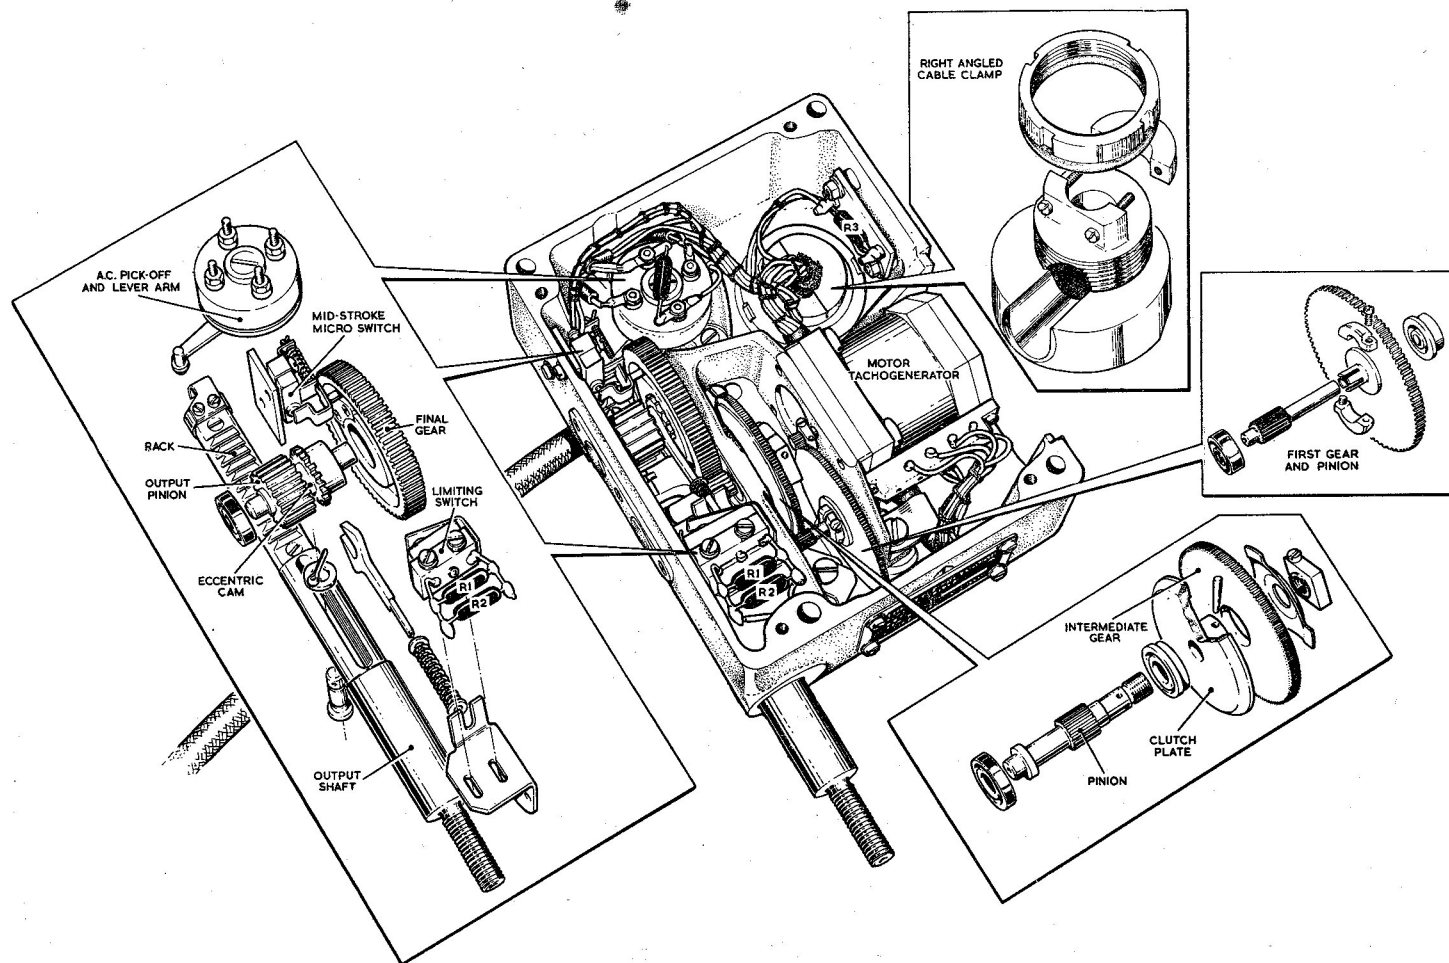

Fig. 2. Actuator—exploded view
4. The throttle actuator (fig. 2) consists of an a.c. motor-tachogenerator, a reduction gear train with a rack and pinion output stage and an a.c. pick-off. The rack is fixed to the output shaft which has a maximum movement of 1.00 ± 0.01 in. The a.c. pick-off is coupled to the output shaft by a lever.
6. The motor drive is transmitted through a 764 : 1 reduction gear train (fig. 2) to the actuator output shaft. A slipping clutch is included in the gear train to prevent motor inertia from damaging the gears in the event of an output overload. To save excessive wear on the overload clutch a protection circuit is included which stalls the motor when the actuator shaft reaches its full travel limit.
7. The components are housed in a cast light alloy case (fig. 2) which has an open top and a cut-out on one side. A light alloy dust cover which fits over the case top and cut-out is secured by six countersunk screws. The unit has three fixing holes which pass through the case and cover.